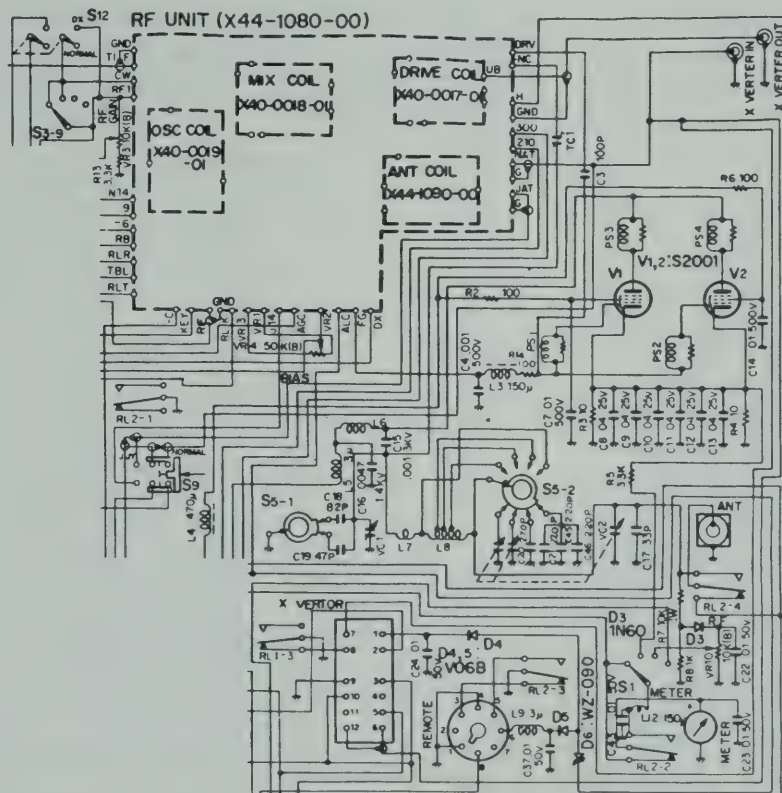

Figure 26 Final Section
5.15 FINAL POWER AMPLIFIER SECTION (See Figure 26)